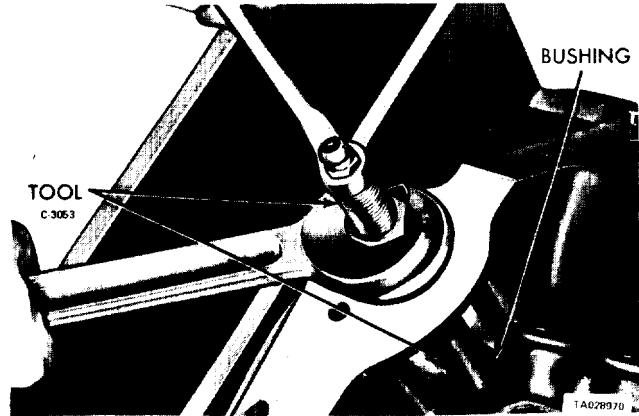

Figure 11-32. Burnishing Distributor Drive Shaft Bushing
(3) Tighten the puller nut. As the burnisher is pulled through the bushing, the bushing is expanded to fit tightly in the block and is burnished to the correct size (figure 11-32). Do not ream this bushing.